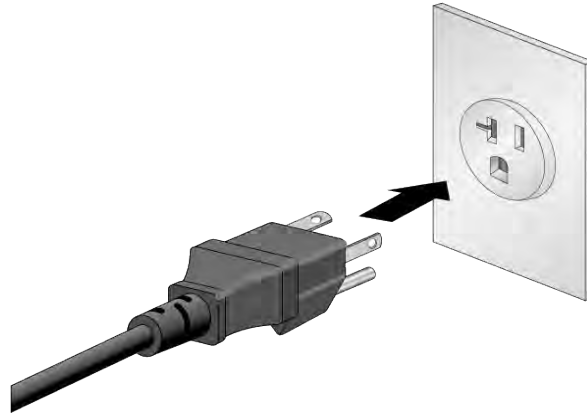

Figure 80. Connecting the Power Cord to an AC Power Source
3. Connect the power cord to an appropriate AC power source. Refer to Figure 80 on page 155.